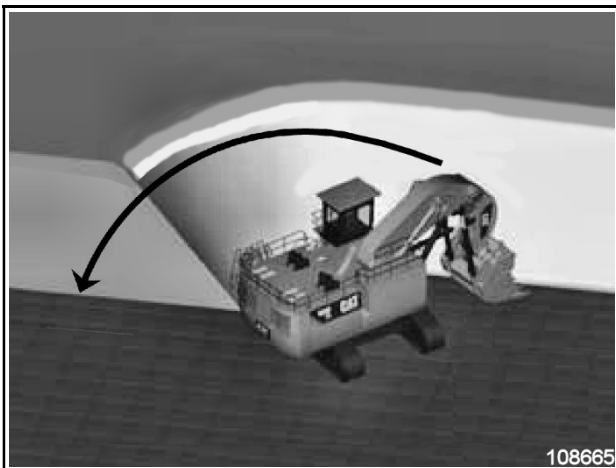

Fig. 2-155:
- Utilize the time between trucks (during truck spotting) to prepare the 1st pass for the next truck load (Fig. 2-155:).